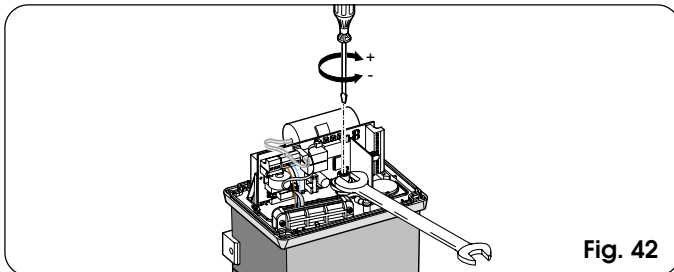

Fig. 42
- 2) Keep the motor shaft locked with a wrench and turn the clutch adjustment screw with an Allen wrench or screwdriver as shown in Fig. 42.